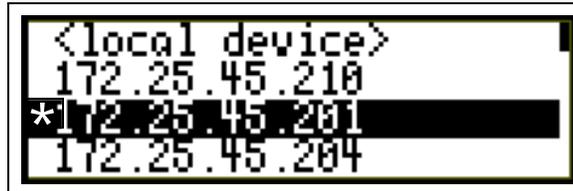

Figure 10. List of Systems Available for Remote Control
2. On the X75-RCP, press the **Remote** button to bring up a list of available units for control. See Figure 10.